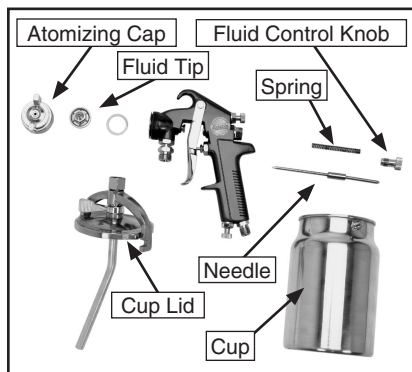

Figure 16. Disassembly for cleaning.
5. Unscrew the atomizing cap with your fingers and the fluid tip with the service wrench. The fully disassembled gun should look like **Figure 16**.